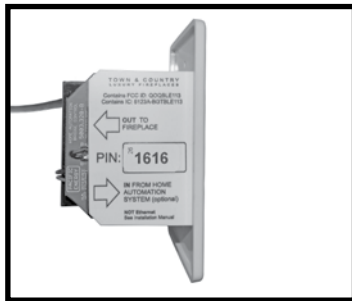
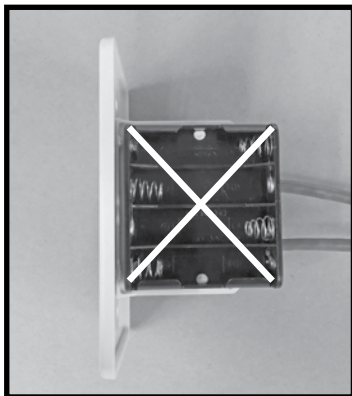

Figure 3: Wall switch - interface side.
Figure 4: Wall switch with no batteries.
3. Wall mounted Remote Control Receiver Figure 3, Figure 4 and Figure 5.
NOTICE: Do not install batteries into the wall switch this unit if using a power vent with this unit (Figure 4).